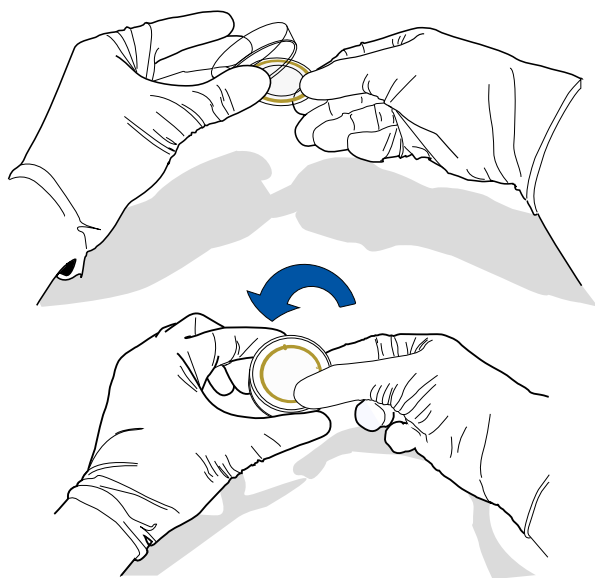

Figure 5-4
2. When sticking the tag to the dish, bring the tag into contact with the dish at one point. Then use your finger or thumb to work the tag onto the dish with a circular movement, moving away from the initial contact point so as to avoid any kinks in the tag as it sticks to the dish. See Figure 5-4.